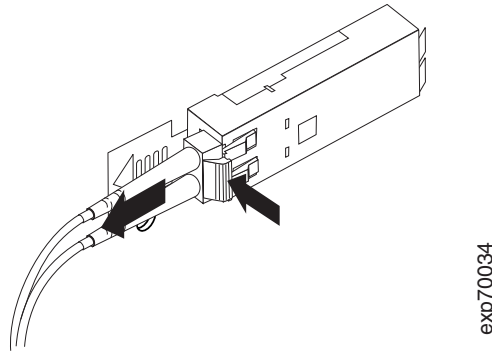

Figure 29. Removing the LC-LC fibre channel cable
2. Carefully pull on the connector to remove the cable from the SFP module as shown in Figure 29 on page 39.